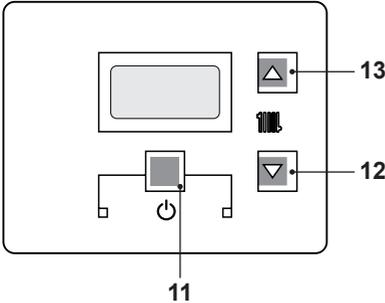
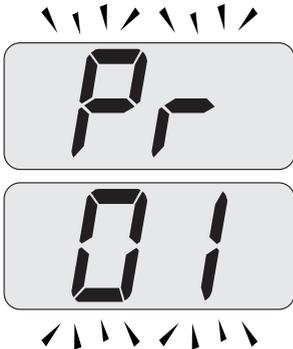

Fig. 7.47
Fig. 7.48
- Enter the "programming mode" by pressing keys 11 - 12 - 13 (Fig. 7.47) for 10 seconds at the same time until the letters **Pr** that alternate with code **01** are displayed on the LCD display, indicating that "parameter 01" (Fig. 7.48) has been activated.
- Press keys 11 and 13 (Fig. 7.47) at the same time until the value of parameter 06 (40=Advance Plus 16S or 41=Advance Plus 25S or 42=Advance Plus 30S) is displayed on the LCD display (Fig. 7.49).
- Press keys 11 and 12 (Fig. 7.47) at the same time to exit without changing the value (return to the parameters list Fig. 7.48).
- Press keys 11 - 12 - 13 (Fig. 7.47) at the same time for 10 seconds to exit the "programming mode".